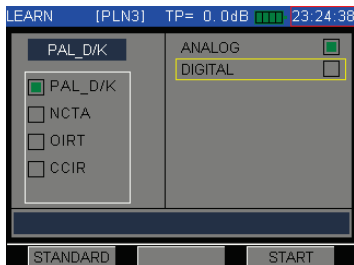
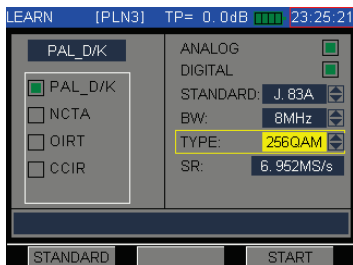

Figure 4-11
Figure 4-12
Press **F1** save the new name and quit rename operation, **F2** is backspace, to correct you input contents, press **F3**, don't save and quit. After you quit, continue press **F3** (SELECT) to set the current cursor position channel plan as the default channel plan, the symbol "✓" is marking on this channel plan. Press the **F1** (ENTER) or  enter create or learn channel plan function. The Figure 4-11 and Figure 4-12 show the LEARN USER PLAN screen.
3. Press  or  button to choose the channel plan standard. DS2460Q has four default standard: PAL_D/K, NCTA, OIRT, CCIR. Press  and  button to switch editable channel parameters position. Use  or  and  button to change parameters' value. For SR (Symbol Rate) parameter, you must use  button switch the key to alphabet and number input function to input the right symbol rate. If you only choose analog TV channel, the screen display content show in Figure 4-11; if user also choose the digital TV channel, the screen display content show in Figure 4-12.